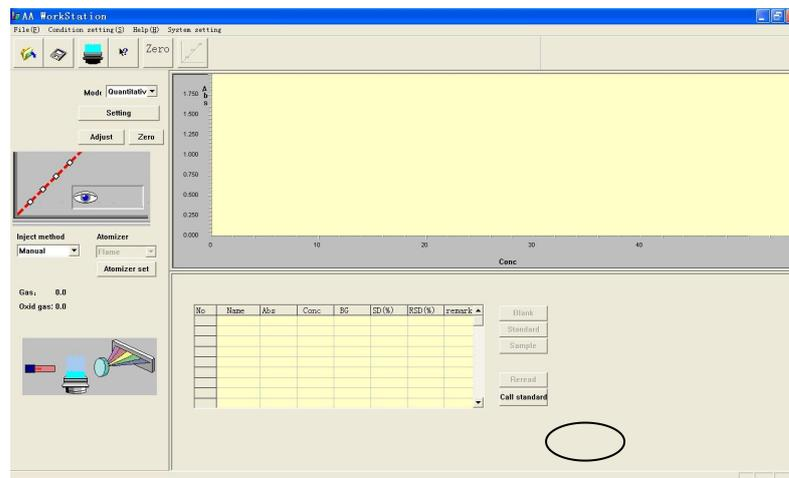
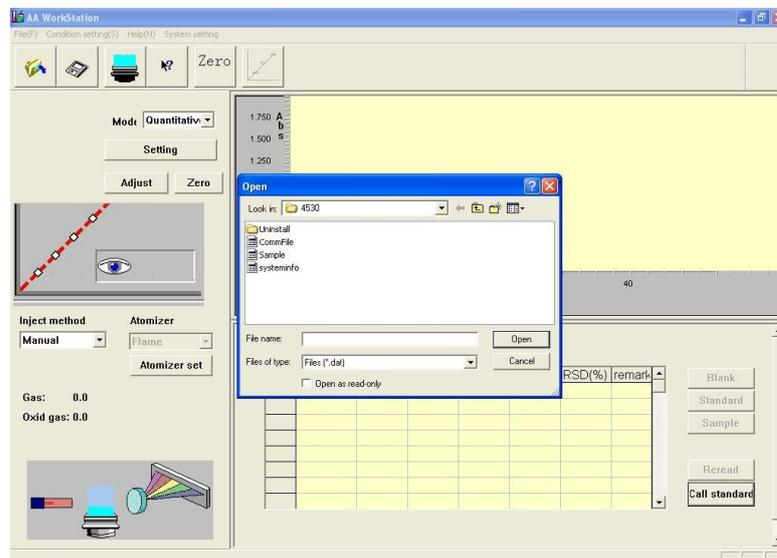

Figure 4-35
Figure 4-35-1
a. Press the "Call criteria" button, as shown in Figure 4-35. The "Open" dialog will appear as shown in Figure 4-35-1.